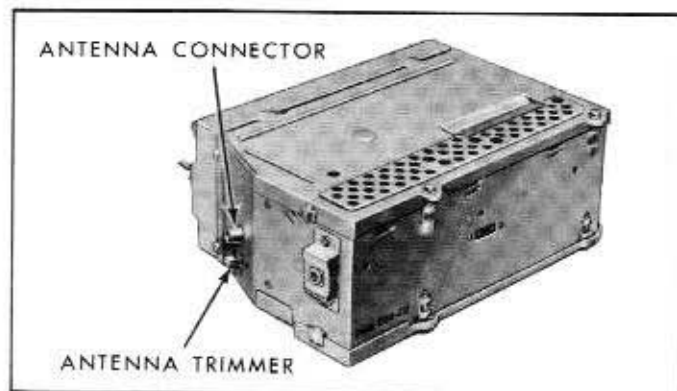

Fig. 11-1—Antenna Trimmer Adjustment—(60C-7826)
2. Turn the antenna trimmer knob slowly in either direction until a peak volume is reached. The antenna trimmer knob is located on the right side of the receiver near the antenna lead-in connection. See figure 11-1.